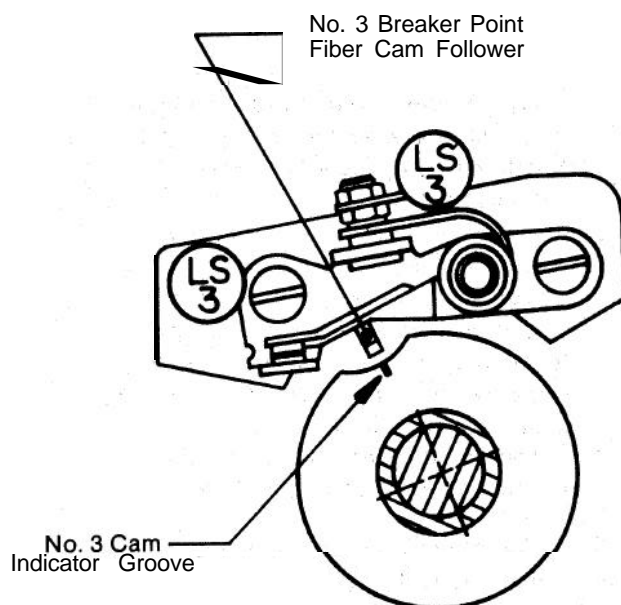

Figure 4. Brake monitoring cam alignment
- Remove end cap (31) from timer by removing the two socket head cap screws.
- Loosen jam nuts (30). Hold adjusting knob (29) and align indicator groove on cam No. 3 (28A) in timer "A" with fiber cam follower of LS3 as shown in Figure 4.
- Retighten the jam nuts (30).
- Position felt seal (34), replace end cap (31), install and tighten the two socket head cap screws. Turn electrical power on.
- Turn electrical power off and remove end cap (31).
- Loosen jam nuts (30) and rotate adjusting knob (29) in opposite direction of cam arrow to advance the stopping position, or in same direction of cam arrow to retard the stopping position.
- Hold adjusting knob (29) from rotating and align indicator groove on brake monitoring cam No. 3 with fiber cam follower of LS3 as shown in Figure 4.
- m) Retighten the jam nuts (30) and repeat Steps “f”, “g” and “h”!
- c) On each timer, loosen the locknuts (30) and rotate the cam assemblies,, so that the leading edge of the lobe on both cam No. 4 and 5 (33 and 33A) just start to open the LS4 breaker points. Tighten locknuts (30). Also, refer to brake monitoring cam adjustment at this point, when applicable (see Paragraph 2.3.1 and Figure 4).
- i) **With power “OFF”**, replace the felt seal (34), the timer end caps and socket screws.
- q) Maintain No. 5 cam alignment by holding adjusting knob. Rotate No. 3 cam so that indicator groove lines up with the fiber cam follower on LS3 breaker point. Refer to Figure 4. This alignment must be done with the crankshaft at top dead center.